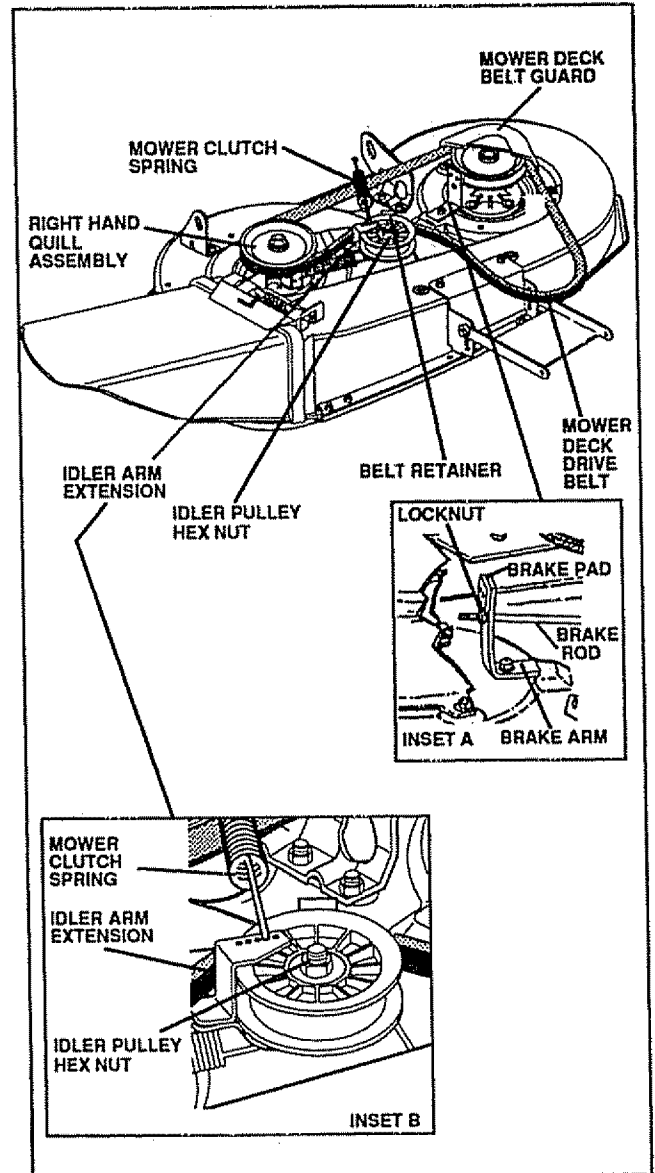

FIG. 25
TO ADJUST BLADE DRIVE BELT (See FIG. 25)
BLADE BRAKE ADJUSTMENT (See FIG. 25)
- Note which one of five holes on front of idler arm extension is used for attaching mower clutch spring (see FIG. 25, inset B).
- Locknut, on end of brake rod, should be approximately 1/8 inch from brake pad mounting bracket with left hand brake pad against pulley of left hand quill assembly (See FIG. 25, inset A).